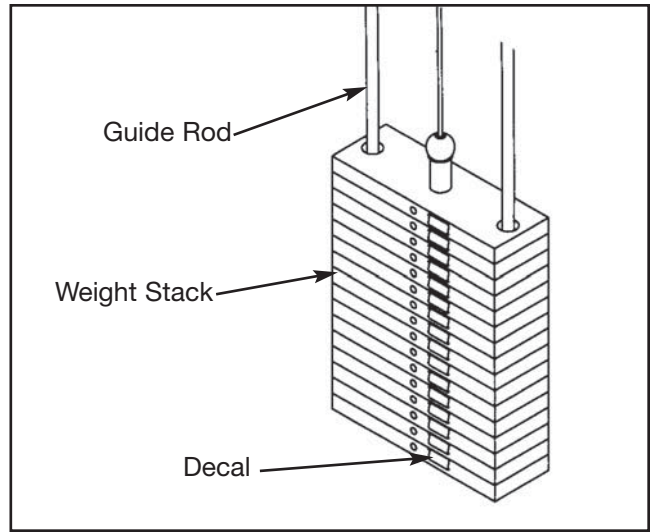

Figure 19
(see steps 9A - 9H, Figures 19 and 20).
- G.** Carefully remove front side, leaving decals adhering to weight plates. See Figure 19.